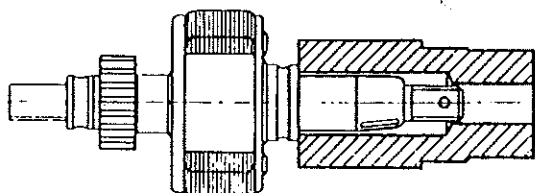

Figure 903. Installing Drive End Bearing Inner Race
- C. Position original shim washers (71) on drive end of magnet shaft. Using large end of the 11-9624-1 Pressing Tool, press inner race of the new bearing (70), lettered side out, onto shaft. See Figure 903.